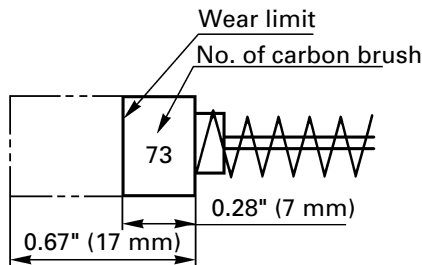

Fig. 18
4. Inspecting the carbon brushes: (Fig. 18)
**NOTE:** Use HITACHI carbon brush No.73 indicated in Fig. 18